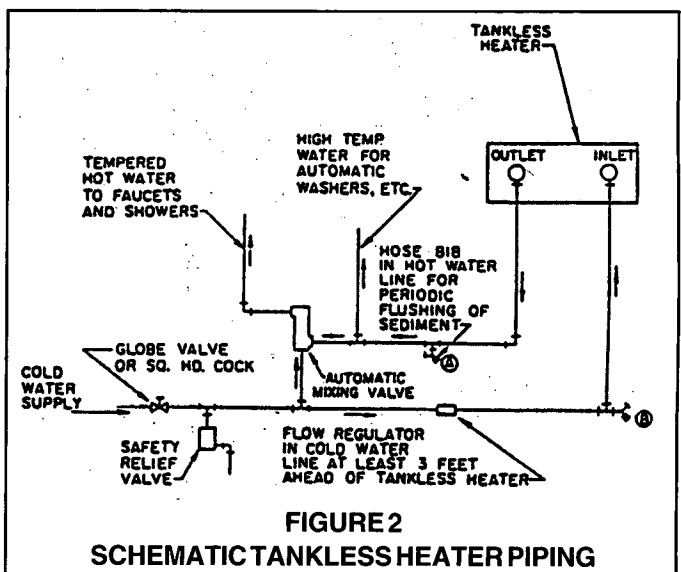
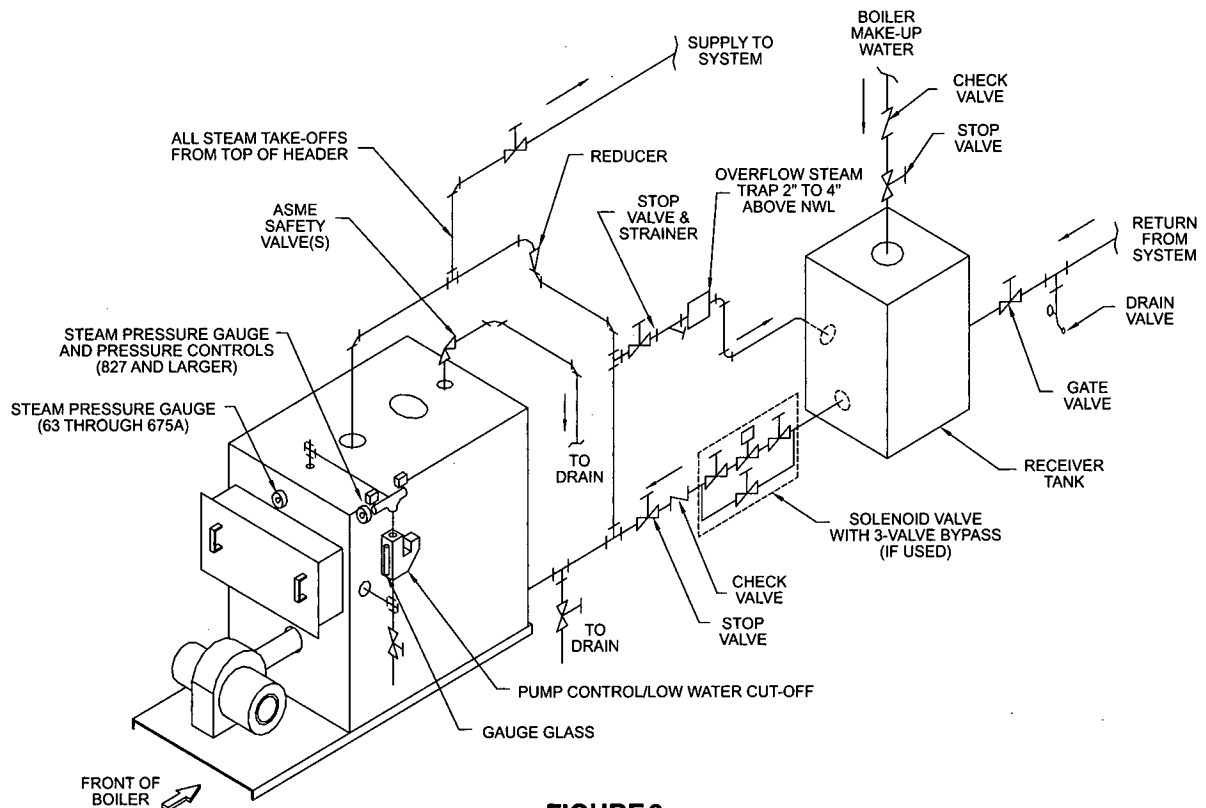

FIGURE 2
FIGURE 3
Attach supply and return piping lines and insert plugs and bushings in connections as required. Supply and return piping headers are detailed in Figure 2 and Figure 3.
A. If boiler is ordered with tankless heater, connect tankless heater piping as shown in Figure 2.